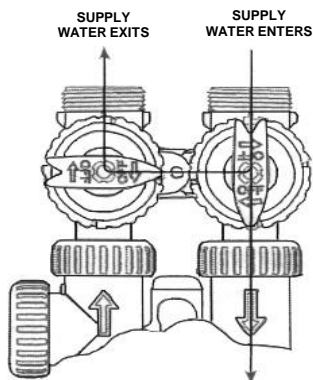

Figure 3
3. **Diagnostic Position:** The inlet handle points toward the control valve and the outlet handle points to the center of bypass valve. Untreated supply water is allowed to flow to the system and to the building, while not allowing water to exit from the system to the building (**Fig. 3**). This allows the service technician to draw brine and perform other tests without the test water going to the building.